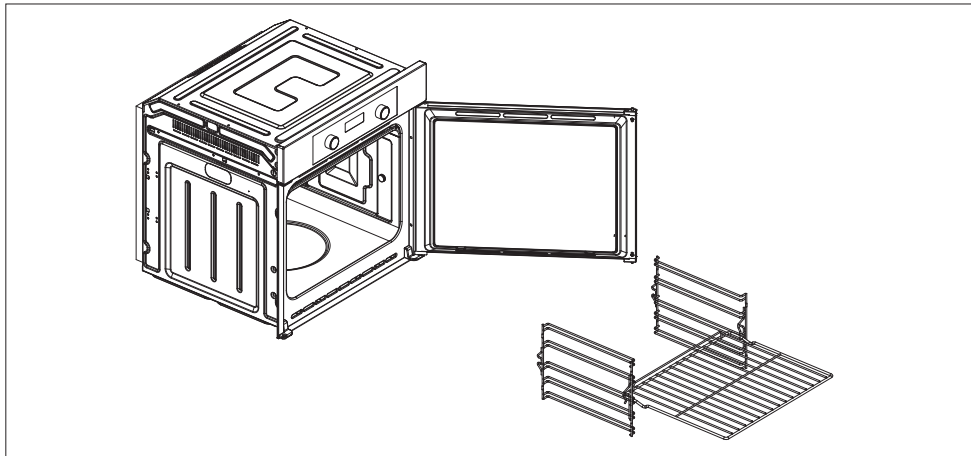

Figure 2.
- Remove the side racks (see section below and Fig.2)
- Finally, re-fit the side racks (See below and Fig.2)